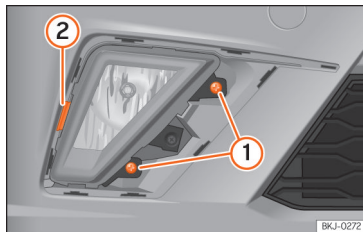

Fig. 167 Fog light: detach the bulb holder
- Remove the two bolts >>> **Fig. 167** ① and lever the clip ② to remove the front fog light.